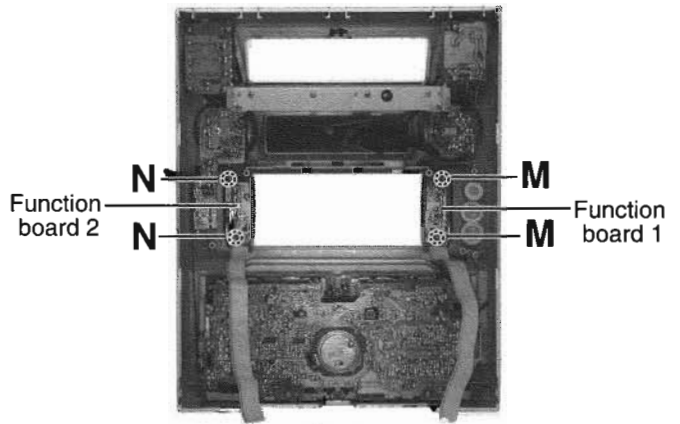

Fig.17
■ **Removing the boards in the front panel assembly (See Fig.17 to 19)**
— **Function board1 (See Fig.17)** —
— **Function board2 (See Fig.17)** —